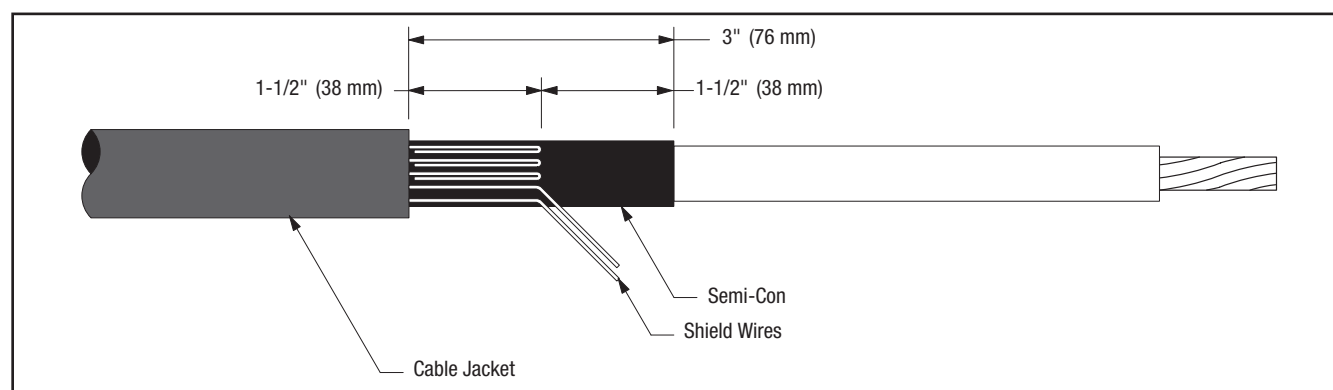

Figure 10
7.5 Bend leading 1 1/2" (38 mm) of exposed shield wires back upon themselves to jacket edge (*Figure 10*).